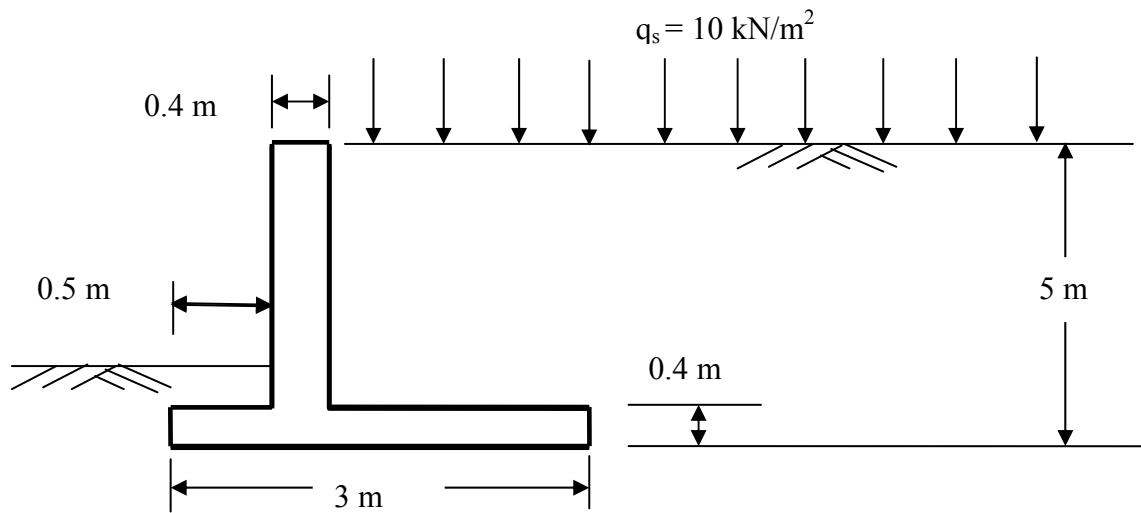

Figure 2
c) Calculate the safety factor of the reinforced concrete wall shown in Figure 2 against sliding.